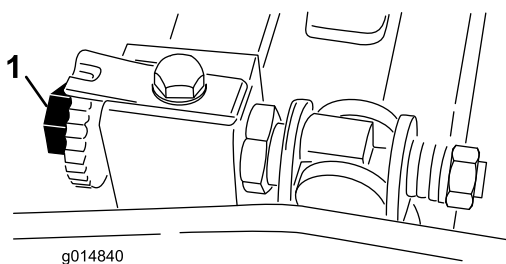

Figure 39
turn the bedbar adjusting screw clockwise (on the same end of reel, one click at a time, until the paper is pinched lightly, when inserted from the front, parallel to the bedknife, which results in a slight drag when paper is pulled (Figure 39)
2. Ensure that the reel contact is removed by turning the bedbar adjusting screws counterclockwise (Figure 39).